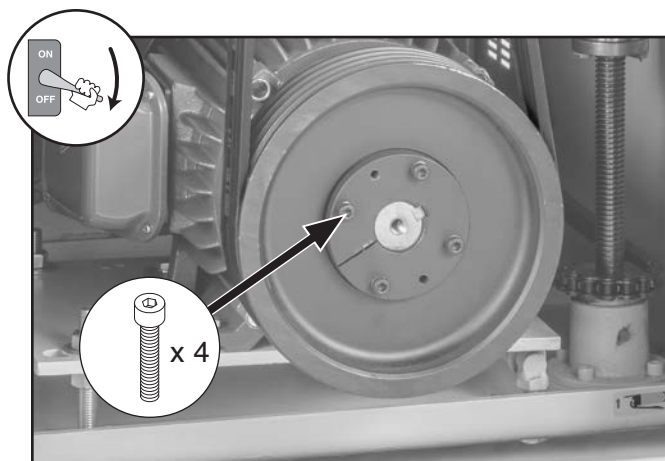

Figure 82. Location of motor pulley fasteners.
2. Equally tighten (4) cap screws on motor pulley (see **Figure 82**) to pull motor pulley closer to motor.